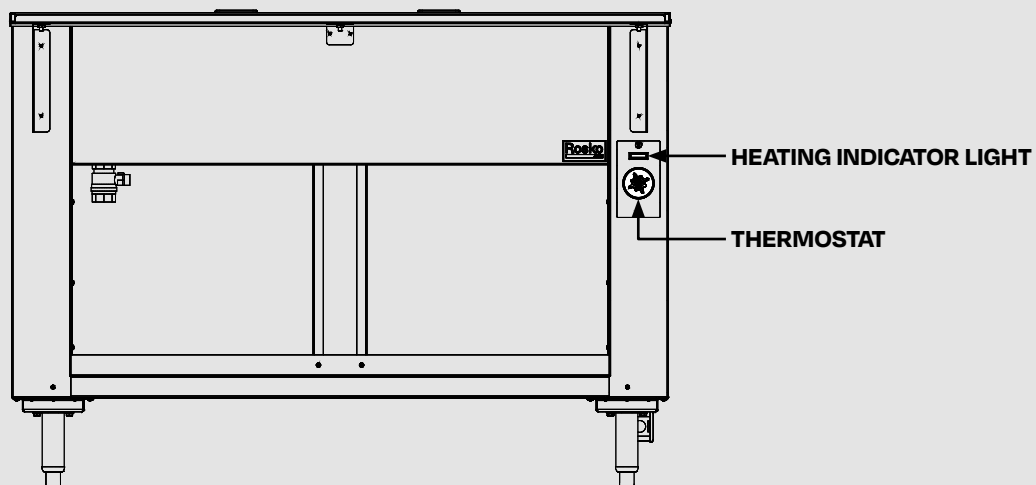

Figure 5
3. 3. Adjust the thermostat to the desired position. A red indicator light up to indicate that the element is on. **(Figure 5)**